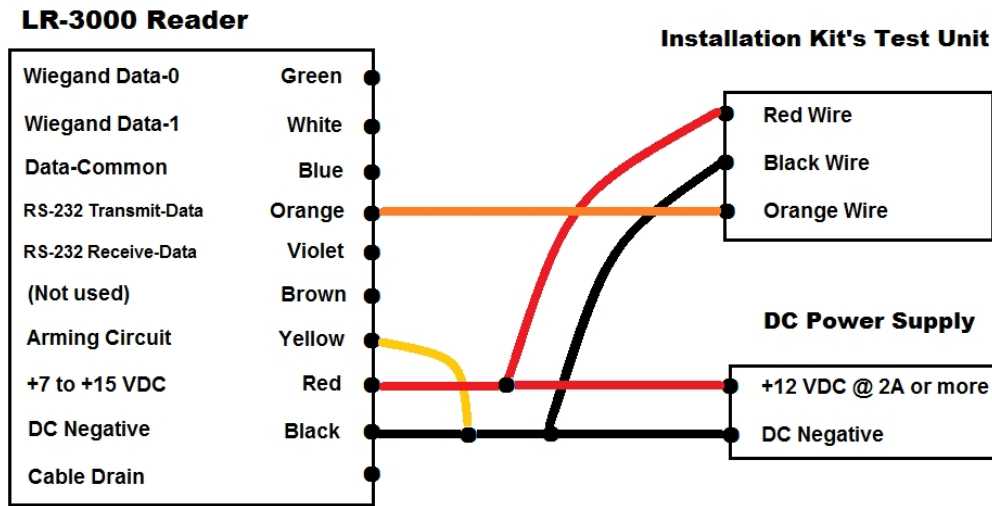

Figure 2 Wiring for quick test
| <ul style="list-style-type: none"> • LR-3000 reader (It does not contain an LED.) • HT-UHF hangtag (26-bit code), or other tag * • Install Kit’s Test Unit, cable with 3 clips * | <ul style="list-style-type: none"> • PS-12-3.3A power module, cable with 2 clips * • Wiring diagram, Figure 2 (below) <p>* A component of the LR-TEK Installation Kit</p> |
- Connect the wires as shown in the wiring diagram, Figure 2 (below).
This step should be taken before the credentials are installed in or on the vehicles. From the LR-TEK Installation Kit, use the test unit, and one of the hand-held test tags, and the wiring diagram in Figure 2 on page 7. The reader does not have to be interfaced with the host system (but they *may* be connected together). Use the DC power module from the LR-TEK Installation Kit *only* if the independent DC power supply is not yet connected.